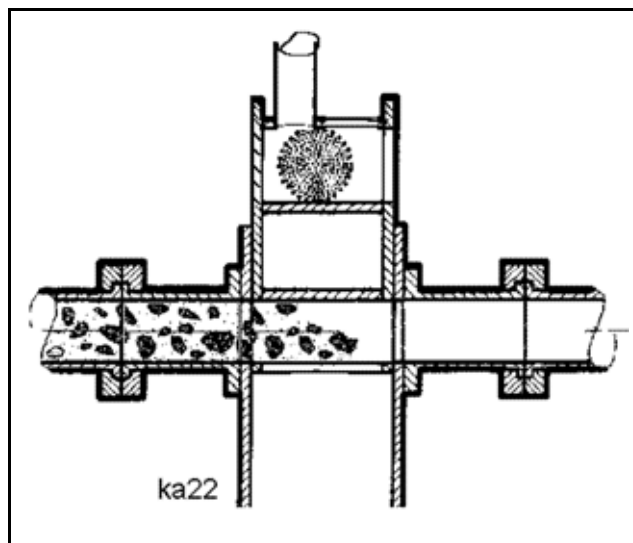

Fig. 604
- Place a soft cleaning ball into the chamber as described above (**Fig. 604**).